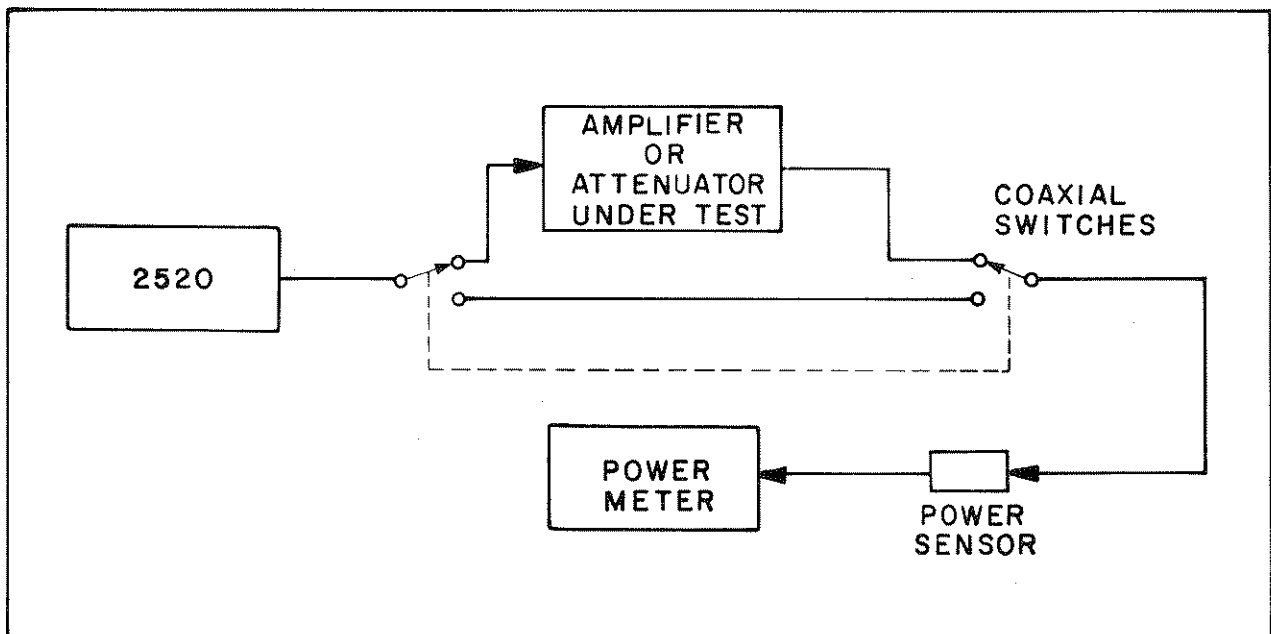

Figure 4-1. Attenuator and Amplifier Calibration
**2. Technique.** Refer to Figure 4-1 for the setup. The power meter is used for the comparison of two measurements only, which are very close to each other (within 0.1 dB), and therefore need not be calibrated at all. The only requirement of the meter is that it is linear over that 0.1 dB, and that it has adequate resolution.
**4-4. AMPLIFIER CALIBRATION.** Amplifiers that operate at 30 MHz can be tested for gain and compression point by connecting them as shown in Figure 4-1. The technique is similar to calibrating attenuators as shown in the previous section. That is, the amplifier gain is equal to the difference in 2520 settings, plus the correction factor as shown in the Attenuator Calibration example above, where the two settings are for the "DUT in" case and the "DUT out" case. As for the attenuator case above, the power meter is used for comparison of two measurements only and does not enter into the calculation.